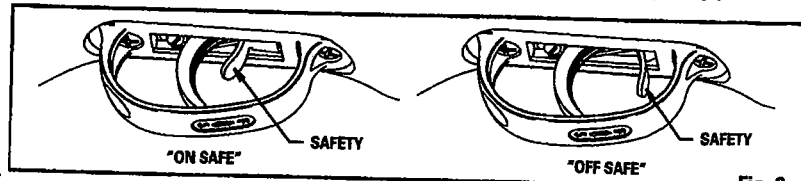

Fig. 2 -
- Locate the safety in front of the trigger. Push the safety towards the trigger to put the safety on. The safety is on, and the airgun is "ON SAFE" when the lever is in the rear position (near the trigger). (Fig. 2)
- Push the safety to the forward position (away from the trigger). When the airgun is "OFF SAFE" it is ready to be fired (Fig. 2)